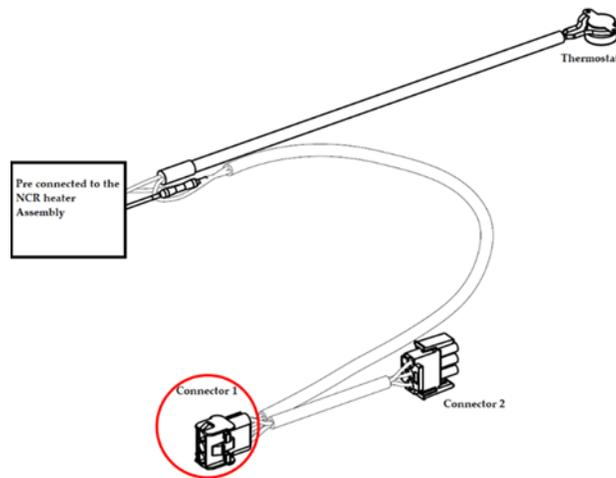
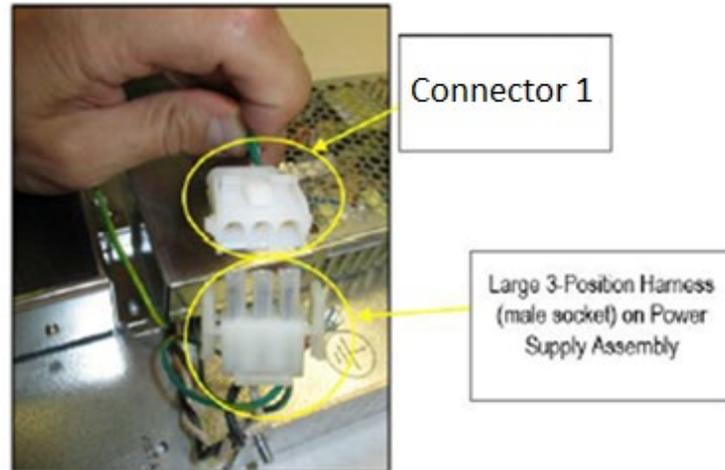

Figure 102
Figure 103
10. Attach Connector 1 (identified in Figure 102) to the NON-Invenco Link OPTIC power supply cable as shown in Figure 103.